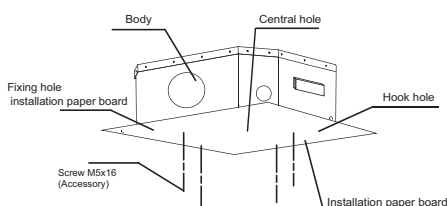

Fig.5-8
- 2 After installing the body, please fasten the installation paper board onto the air conditioner with bolts (M6X16) to determine in advance the sizes and positions of the hole opening on ceiling. (Refer to Fig.5-8)